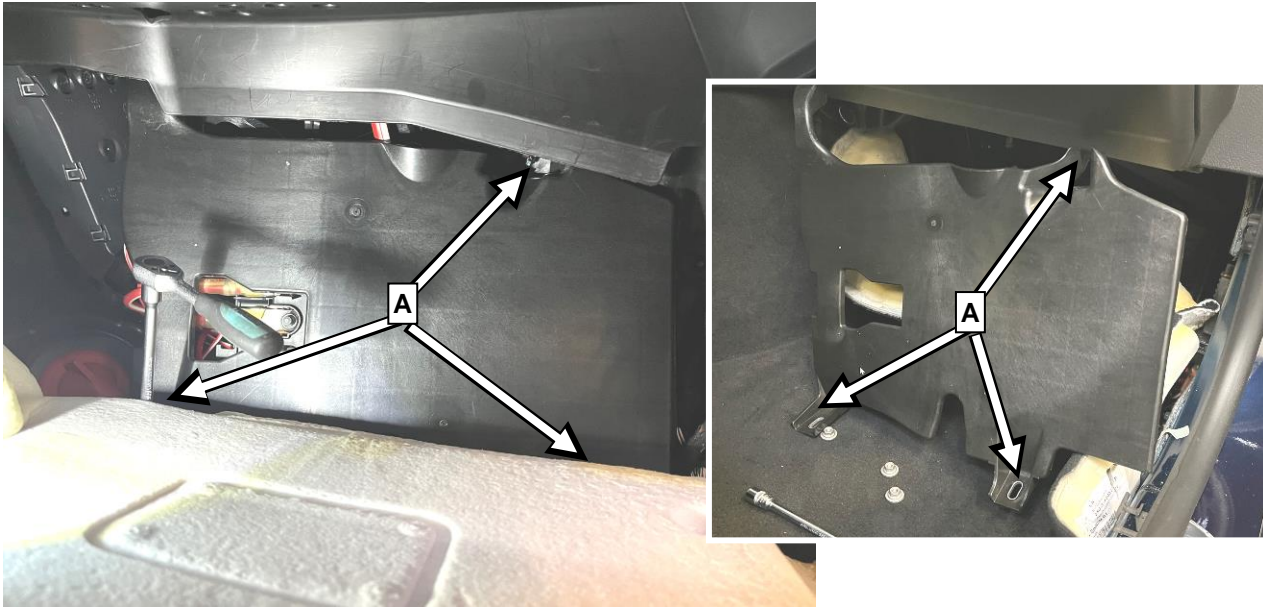

Figure 3, Interior prefuse box cover, shown on model 206
3. Unscrew nuts (**Figure 3, A**) of interior prefuse box cover and remove the cover.